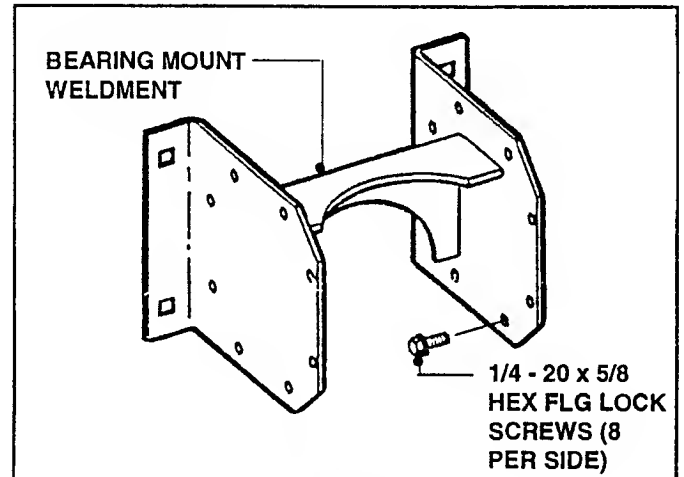

FIGURE 5.12
- J. Remove the eight (8) 1/4 - 20 x 5/8 Hex Flange Lock Screws from inside the Bearing Mount Weldment. See Figure 5.12.